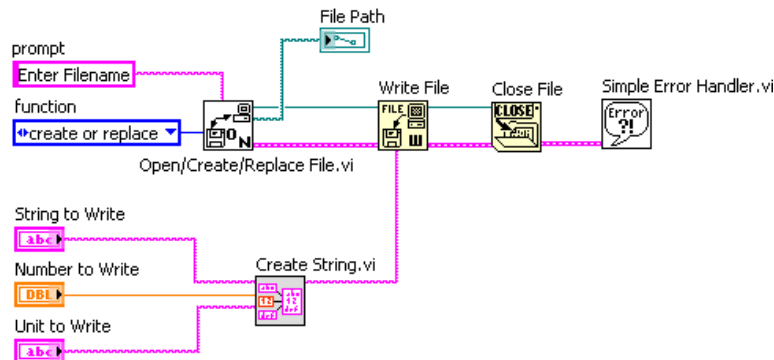

Figure 9.16
- Build the block diagram shown in Figure 9.16.
- (f) Complete the block diagram as shown in Figure 9.16.